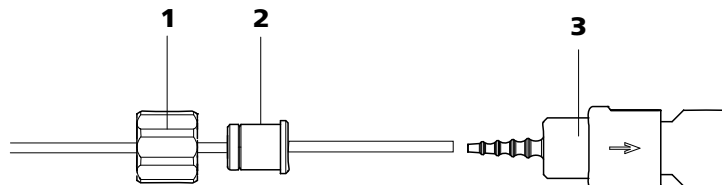

Figure 25 Install pump tubing connection with filter
- **Case A:** a 6.2744.180 pump tubing connection **with filter** (see figure 25, page 43) or